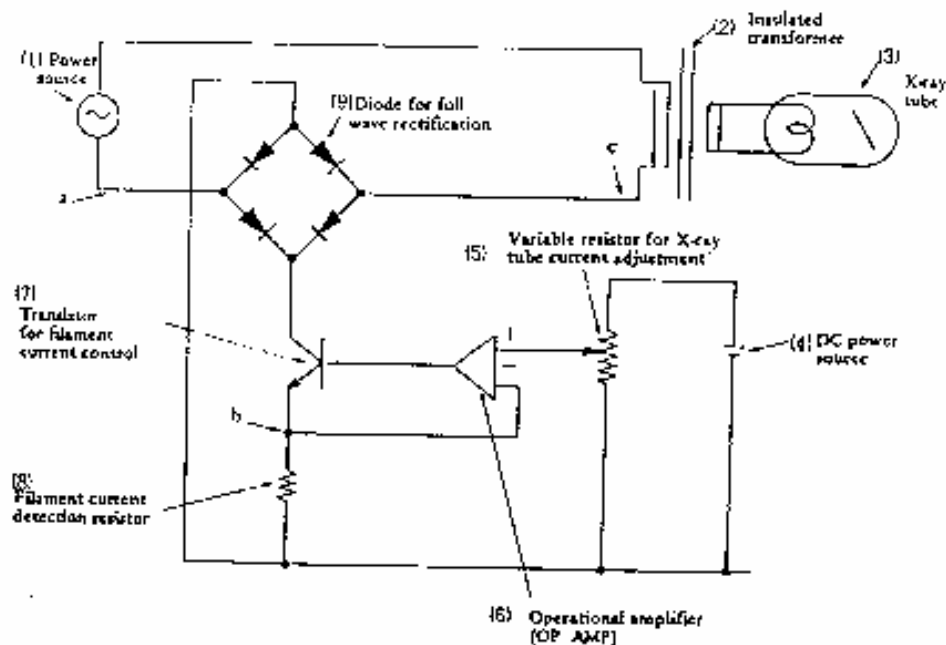
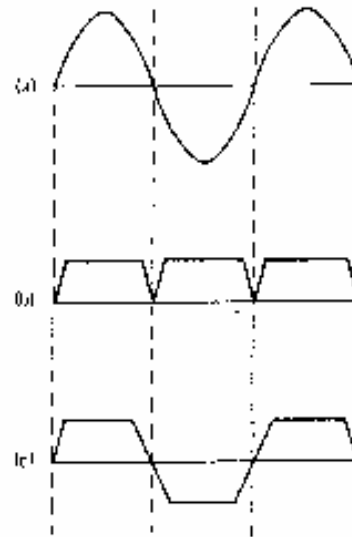
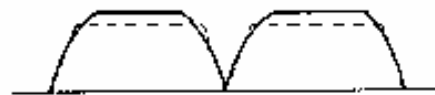

Fig. 3-5-1
Fig. 3-5-2
Fig. 3-5-3
Figure 3-5-1 show the basic contrution of this circuit.
(1) Figure 3-5-2 shows the voltage waveform of each part given in Fig. 3-5-1; waveforms (a), (b) and (c) represent the voltage waveforms at the corresponding circuits in Fig. 3-5-1. In Fig. 3-5-1, the voltage supplied from DC power
In this circuit formation, a voltage as waveform (b) in Fig. 3-5-2 is applied across the filament current detection resistor (8). Since the amplification factor of OP AMP (6) is very large, the output voltage of variable resistor (5) becomes equal to the peak of voltage impressed to the resistor (8).
- (2) Figure 3-5-3 is the voltage waveform at point (b) in Fig. 3-5-1 when the line voltage fluctuates.
In other words, the voltage of DC power source (4) in Fig. 3-5-1 descends when the line voltage is high and ascends when the line voltage is low. Thereby, the voltage of (b) in Fig. 3-5-1, that is, the effective value of X-ray tube filament current remains constant even if the line voltage fluctuates.
- (3) By the relatively simple circuit as mentioned above, the filament current can be kept stable in spite of line voltage fluctuations. In addition, the filament current can be controlled by changing the amplitude of filament current with the aid of variable resistor (5) in Fig. 3-5-1.
This circuit is intended to obtain DC power source (4) in Fig. 3-5-1.
Then a voltage proportional to the filament current appears across resistor R32 for filament current detection. (As for the waveform, see curve (b) in Fig. 3-5-2.)